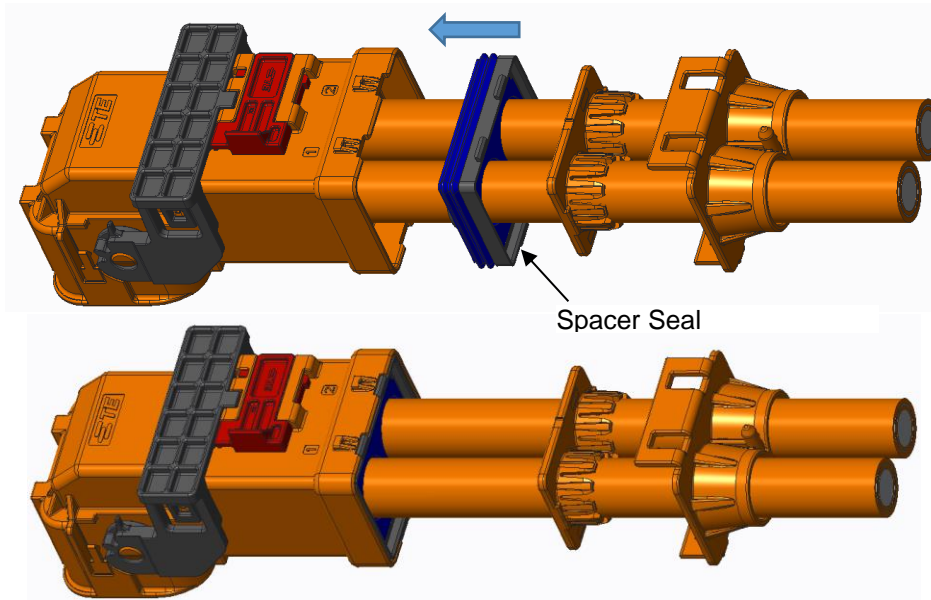

Figure 10: Spacer Seal Assembly
9. Slide the spacer seal forward on the cable and into the cable exit end of the plug sub-assembly until it stops against the inside of the plug sub-assembly as shown in Figure 10.